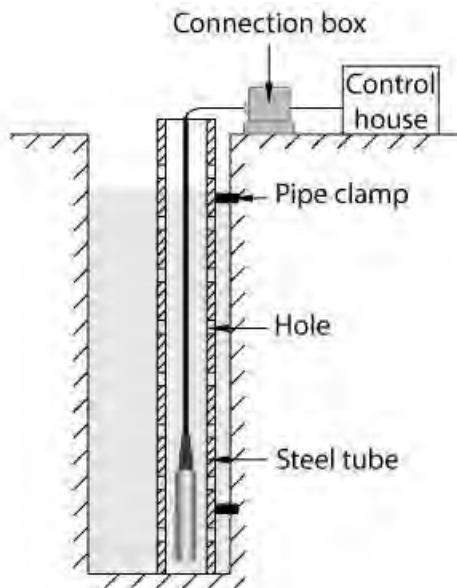

Fig. 2
- b. While pumping the liquid, the transmitter either should not be installed in the tank or it should be protected by steel tube as shown in Fig 2.